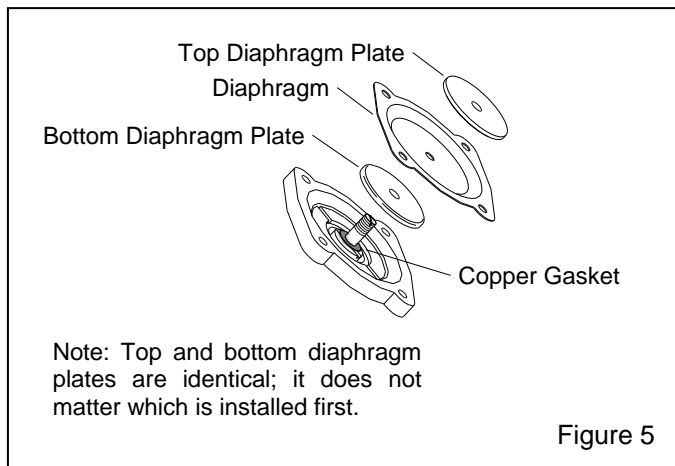

Figure 5
4.2.3 Refer to Figure 5 and remove the top and bottom diaphragm plate, diaphragm, and copper gasket from the stem. A new diaphragm and copper gasket is included in the service kit.
Refer to Figure 5